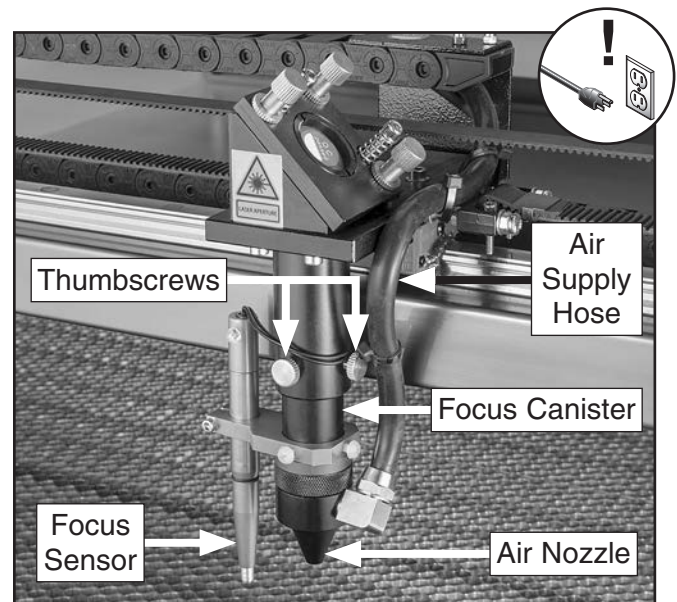

Figure 137. Laser head assembly components.
3. Disconnect air supply hose, loosen air nozzle, and set aside (see **Figure 137**).
4. Loosen thumbscrews and remove focus canister and focus sensor (see **Figure 137**).